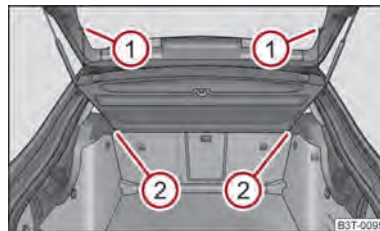

Fig. 72 Removing the luggage compartment cover
- Unhook the support straps ① ⇒ fig. 72.
- Pull the cover out of the holder ② horizontally to the rear.
- Install again by pushing the luggage compartment cover forwards into the holder ② and hanging the support straps ① on the boot lid.